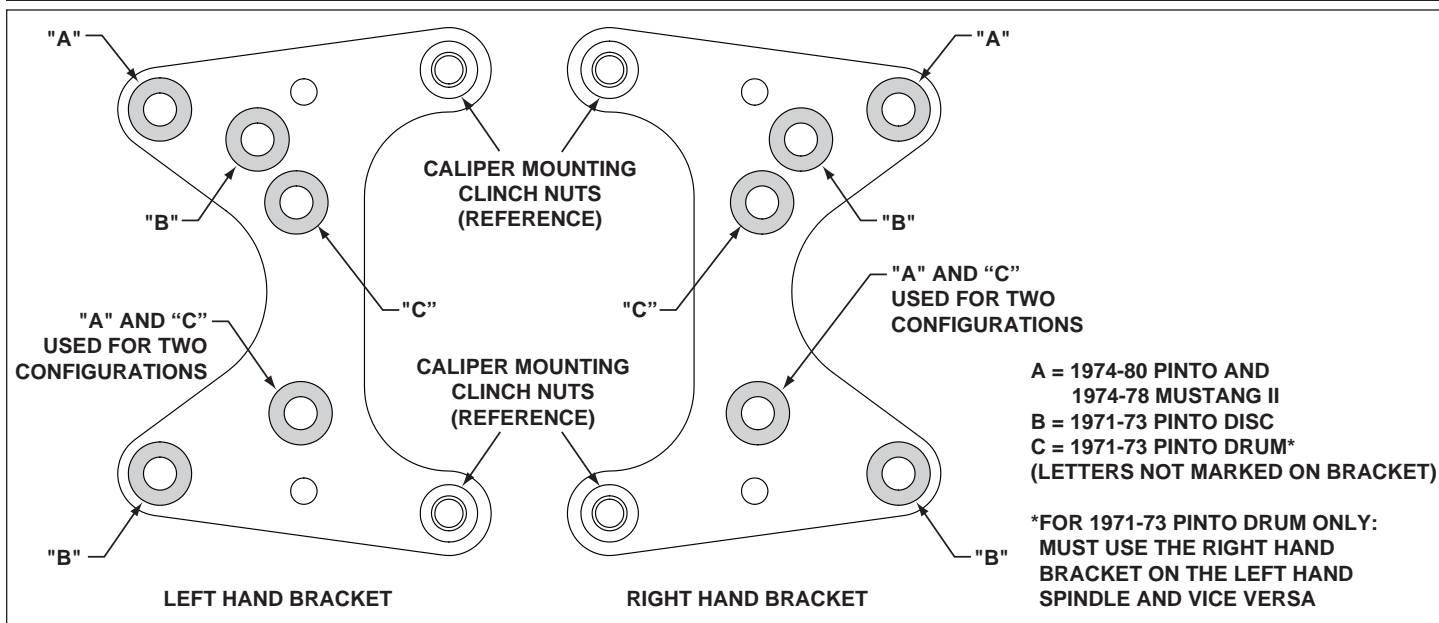
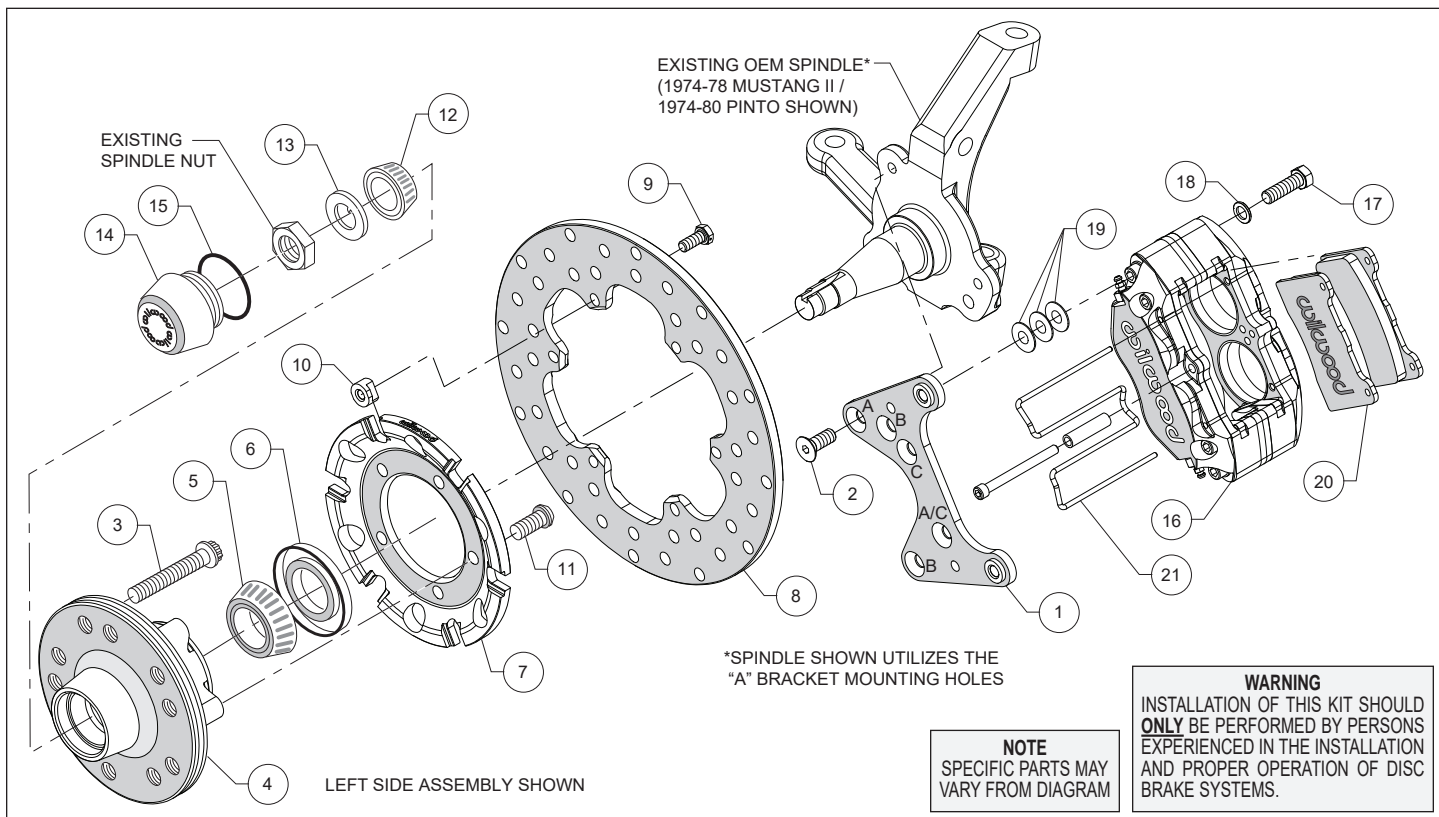
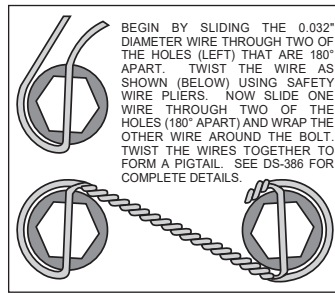
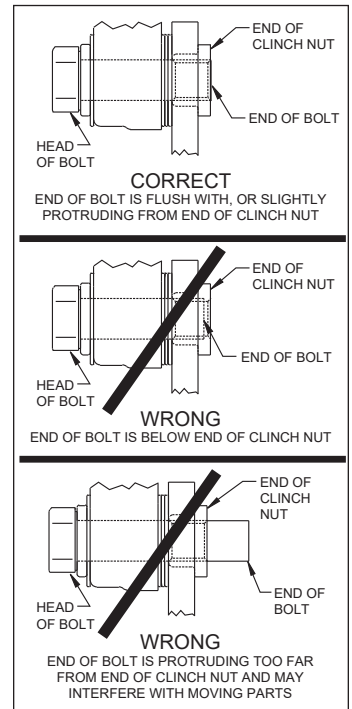

Figure 1. Wilwood Caliper Mounting Bracket
Figure 2. Typical Installation Configuration
Figure 4. Safety Wire Diagram
Figure 5. Clinch Nut Engagement Diagram
This kit has been designed for use with three spindle configurations. The only difference is in how the Wilwood caliper mounting bracket is installed. The same bracket is used for all three configurations; the 1974-78 Mustang II/1974-80 Pinto, the 1971-73 Pinto disc and the 1971-73 Pinto drum spindle (see Figure 1). For your convenience we have supplied fasteners for all applications (see parts list and Figure 2 as necessary, items 2, 2A and 2B). Use the fasteners that are applicable to your vehicle and disregard the other items.
Assembly Instructions (numbers in parenthesis refer to the parts list, on the preceding page and Figure 2): **CAUTION:** All mounting bolts must fully engage clinch nuts. Be sure to check that all bolts are either flush or protruding through flanged side of clinch nut after shimming, Figure 5.
•Orient the caliper mounting bracket (1) as shown in Figure 2 and Photo 1. Using the bracket holes indicated “A” in Figure 1, mount the bracket to the spindle with bolts (2), Photo 1. Temporarily tighten the mounting bolts. Ensure that the flanged heads of the clinch nuts in the bracket are facing outboard, Photo 1. **NOTE:** *The bracket must fit squarely against the mounting points on the spindle.* Inspect for interference from casting irregularities, machining ridges, burrs, etc. Remove bolts one at a time, apply red *Loctite*® 271 to threads and torque to 30 ft-lb.
•Orient the caliper mounting bracket (1) as shown in Photo 2. Using the bracket holes indicated “B” in Figure 1, mount the bracket to the spindle with bolt (2) and bolt (2A), Photo 2. Temporarily tighten the mounting bolts. Ensure that the flanged heads of the clinch nuts in the bracket are facing outboard, Photo 2. **NOTE:** *The bracket must fit squarely against the mounting points on the spindle.* Inspect for interference from casting irregularities, machining ridges, burrs, etc. Remove bolts one at a time, apply red *Loctite*® 271 to threads and torque bolt (2) to 30 ft-lb and bolt (2A) to 45 ft-lb.
•Orient the caliper mounting bracket (1) as shown in Photo 3. Using the bracket holes indicated “C” in Figure 1, mount the bracket to the spindle with bolts (2) and nuts (2B), Photo 3. **NOTE:** *For this application, the right hand bracket must be used on the left hand spindle, and vice versa.* Temporarily tighten the mounting bolts. Ensure that the flanged heads of the clinch nuts in the bracket are facing outboard, Photo 3. **NOTE:** *The bracket must fit squarely against the mounting points on the spindle.* Inspect for interference from casting irregularities, machining ridges, burrs, etc. Remove nuts one at a time, apply red *Loctite*® 271 to the bolt threads and torque nuts to 30 ft-lbs.
•Install wheel studs (3) into the hub (4), Photo 4. Torque to 77 ft-lb. **NOTE:** *There are two five lug patterns in the hub (5 x 4.50 and 5 x 4.75).* Ensure the correct hub stud pattern is being used to fit the wheel application.
•Pack the large inner bearing cone (5) with high temperature disc brake bearing grease (available from your local auto parts store) and install into the backside of the hub (4), Photo 5.
•Install the grease seal (6) by pressing into the backside of the hub (4), flush with the end of the hub, Photo 5.
•Orient the rotor (8) and the rotor adapter (7) as shown in Figure 2 and Photo 6. Attach the rotor to the adapter using bolts (9) and T-nuts (10). Using an alternating sequence, apply red *Loctite*® 271 to the threads, and torque to 220 in-lb. Safety wire bolts using standard 0.032 inch diameter stainless steel safety wire as shown in Figure 4. Refer to Wilwood’s data sheet DS-386 (available at www.wilwood.com/Pdf/DataSheets/ds386.pdf) for complete safety wire installation instructions.
- Mount the adapter/rotor assembly (7 and 8) to the hub (4) using bolts (11), as shown in Figure 2 and Photo 7. Using an alternating sequence, apply red *Loctite*® 271 to the threads, and torque to 45 ft-lb.
- Pack the small outer bearing cone (12) with high temperature disc brake bearing grease and install into hub (4). Slide the hub/rotor assembly onto the spindle. Secure using spindle washer (13) and OEM spindle nut, Photo 8. Adjust bearings per OEM specifications. Install saved OEM nut lock (if any) and a new cotter pin (not included).
- Screw dust cap (14) into hub (4), Photo 9. Friction created by the o-ring (15) on the dust cap keeps it from unscrewing. **NOTE:** The O.D. of the existing OEM spindle washer may be larger than the I.D. of the dust cap not allowing it to seat against the hub face. Therefore, use the spindle washer (13) supplied with the kit instead of the OEM washer.
- NOTE:** Please reference the caution statement at the beginning of the assembly instructions. Mount the caliper (16) onto the caliper mounting bracket (1) using bolts (17) and washers (18), as shown in Figure 1. Initially place three .035" thick shims (19) on each bolt between the caliper and the bracket, Photo 10. Temporarily tighten the mounting bolts and view the rotor (8) through the top opening of the caliper. The rotor should be centered enough in the caliper so that the pads will install easily, Photo 11. If not, adjust by adding or subtracting shims (19) between the bracket and caliper. Always use the same amount of shims on each of the two mounting bolts. **CAUTION:** Do not exceed four shims (19) per bolt. **NOTE:** The end of each bolt must be flush with or slightly protruding from the head of the clinch nut, as shown in Figure 5. If necessary place spare shims between washer (18) and caliper mounting ear to achieve the proper clinch nut engagement. Once the caliper alignment and clinch nut engagement are correct, remove the bolts one at a time, apply red *Loctite*® 271 to bolt threads, and torque to 40 ft-lb. For an added measure of security, the bolts may be safety wired using standard 0.032 inch diameter stainless steel safety wire as shown in Figure 3. Refer to Wilwood's data sheet DS-386 (available at www.wilwood.com/Pdf/DataSheets/ds386.pdf) for complete safety wire installation instructions.
- Install the disc brake pads (20) into the caliper (16), with the friction material facing the rotor (8), Photo 12, and secure in place using pad retainer clip (21), Photo 13.